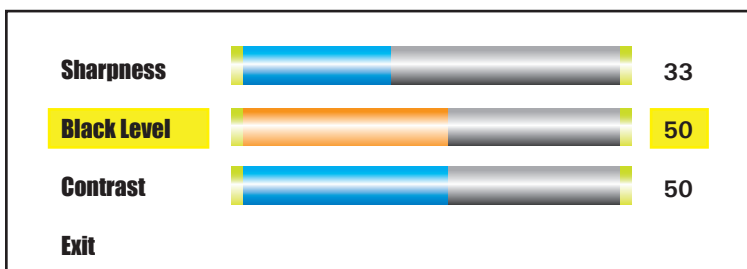

Figure 21
- Press (once) SELECT Button to go to a new menu item (Figure 21), or